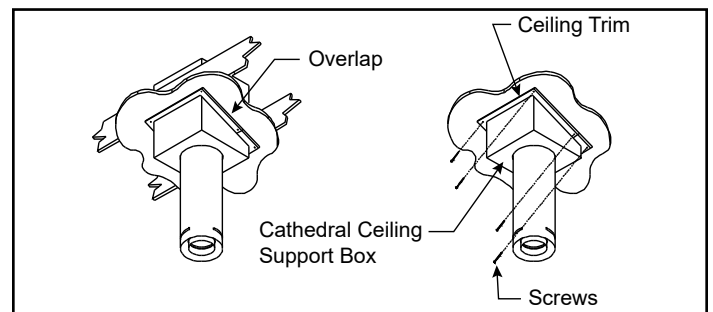

Figure 3.41
Step 9 - Install the black trim collar around the outside of the Cathedral ceiling support box. The two pieces of the trim collar slide over one another to allow for easy adjustment around the support box. Using the six (6) screws provided, secure the four corners and the overlapping sections of the trim collar to the underside of the ceiling. You may want to predrill the holes for the overlapped sections for ease of installation, Figure 3.41.